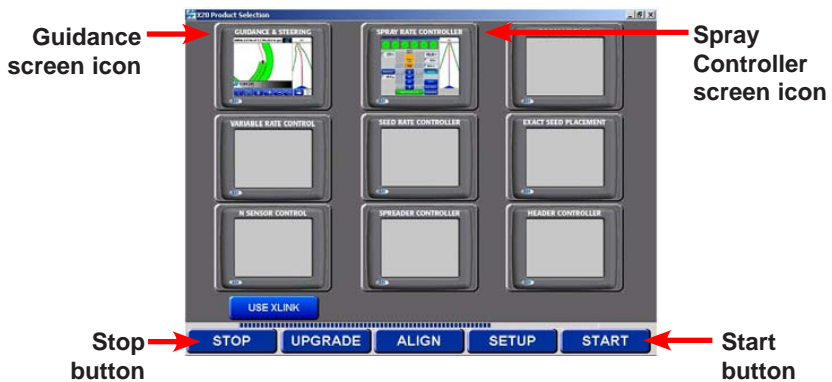

Figure 6-3. X20 Product Selection Screen
3. Press **Stop** when the *X20 Product Selection* screen (Figure 6-3) is displayed
4. Press the **Spray Controller** screen icon (Figure 6-3 on page 6-2)
4. Press the **Spray Controller** screen icon and **Guidance** screen icon (Figure 6-3 on page 6-2)
Press the **Start** button (Figure 6-3 on page 6-2)